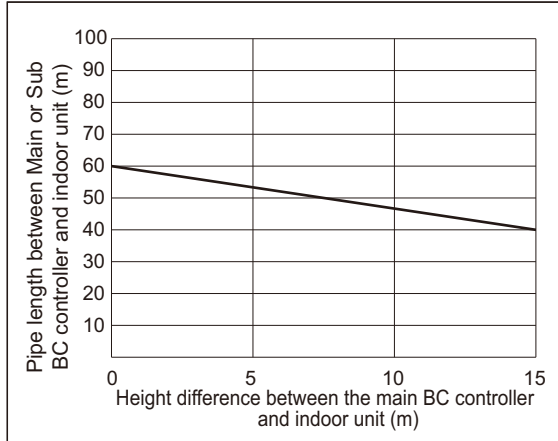

Fig. 2
- *9. When the piping length or the vertical separation exceeds the limit specified in Fig. 2, connect a sub BC to the system. The restriction for a system with a sub BC connection is shown in Fig. 3. When a given system configuration falls within the shaded area in Fig. 3, increase the size of the high-pressure pipe and the liquid pipe between the main BC and sub BC by one size. When using P/M32, P/M40, P/M50, P/M100, or P/M125 model of indoor units, increase the size of the liquid branch pipe between the sub BC and indoor unit by one size. When using indoor models P/M140 or larger, the restrictions shown in Fig. 2 cannot be exceeded.
*9. When the piping length or the vertical separation exceeds the limit specified in Fig. 2, connect a sub BC to the system.
When using indoor models P/M140 or larger, the restrictions shown in Fig. 2 cannot be exceeded.